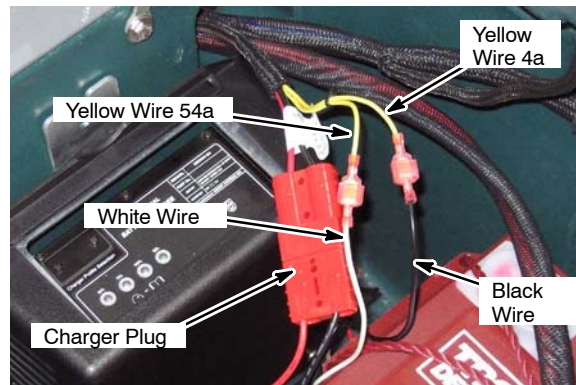

**Fig. 9**
9. Connect the black and red wires from the charger plug harness as shown (Fig. 9).